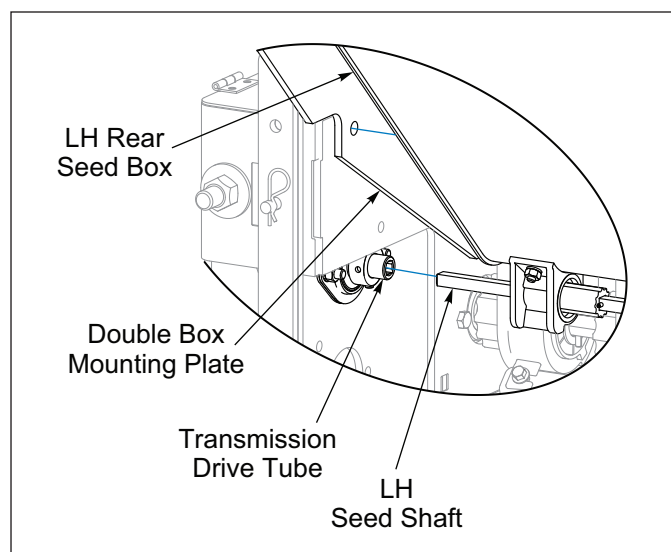

Figure 2-46: Rear Box Seed Shaft
12. Support LH Rear Seed Box. Align and insert Rear Seed Box 3/8" Square Seed Shaft into Transmission Drive Tube. Seed Shaft should be free to rotate. **See Figure 2-46.**